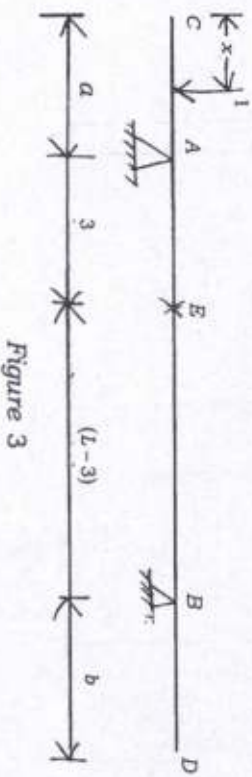

Figure 3
2. (a) Find the expression of influence lines for shear force and bending moment of bothside overhanging beam as shown in Figure 3. Also draw the influence line diagram for each one. 10